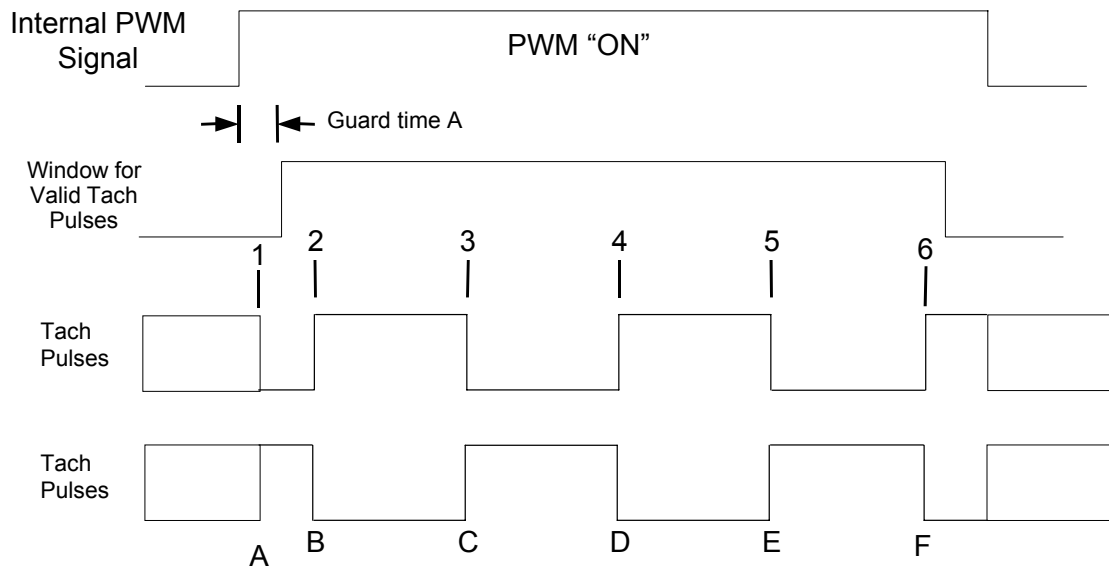

Figure 7.7 PWM and Tachometer Concept
7.1.4.4.1 ASSUMPTIONS (REFER TO FIGURE 7.7, "PWM AND TACHOMETER CONCEPT"):
The Tachometer pulse generates 5 transitions per fan revolution (i.e., two fan tachometer periods per revolution, edges 2→6). One half of a revolution (one tachometer period) is equivalent to three edges (2→4 or 3→5). One quarter of a revolution (one-half tachometer period) is equivalent to two edges. To obtain the fan speed, count the number of 90Khz pulses that occurs between 2 edges i.e., 2→3, between 3 edges i.e., 2→4, or between 5 edges, i.e. 2→6 (the case of 9 edges is not shown). The time from 1-2 occurs through the guard time and is not to be used. For the discussion below, an edge is a high-to-low or low-to-high transition (edges are numbered – refer to Figure 7.7, "PWM and Tachometer Concept").
- 2, 3, 5 or 9 “edges” to calculate the fan speed (Figure 7.7)
- Guard time A is programmable (8-63 clocks) to account for delays in the system (Figure 7.7)
As described in Assumptions \(refer to Figure 7.7, "PWM and Tachometer Concept"\): on page 39, the TACH detection circuitry expects a fan to deliver 5 TACH edges per full revolution. When measuring the fan speed using a PWM drive, the slowest fan speed that can be measured is dependent upon how long the PWM drive is high as well as how many edges are being counted to make a valid measurement.